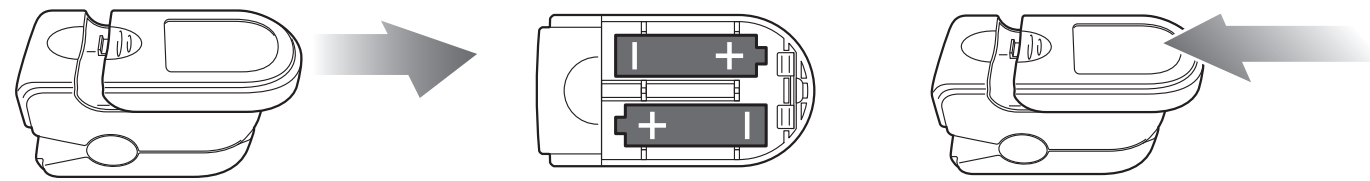

Figure 3. Batteries Installation
- Step 1. Refer to Figure 3. and insert the two AAA size batteries properly in the right direction.